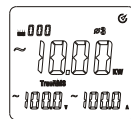

Figure 8-5
- As shown in Figure 8-5, please press SELECT key to select the 3rd phase location. It also can display active power, voltage and current of phase location of $\phi 3$.